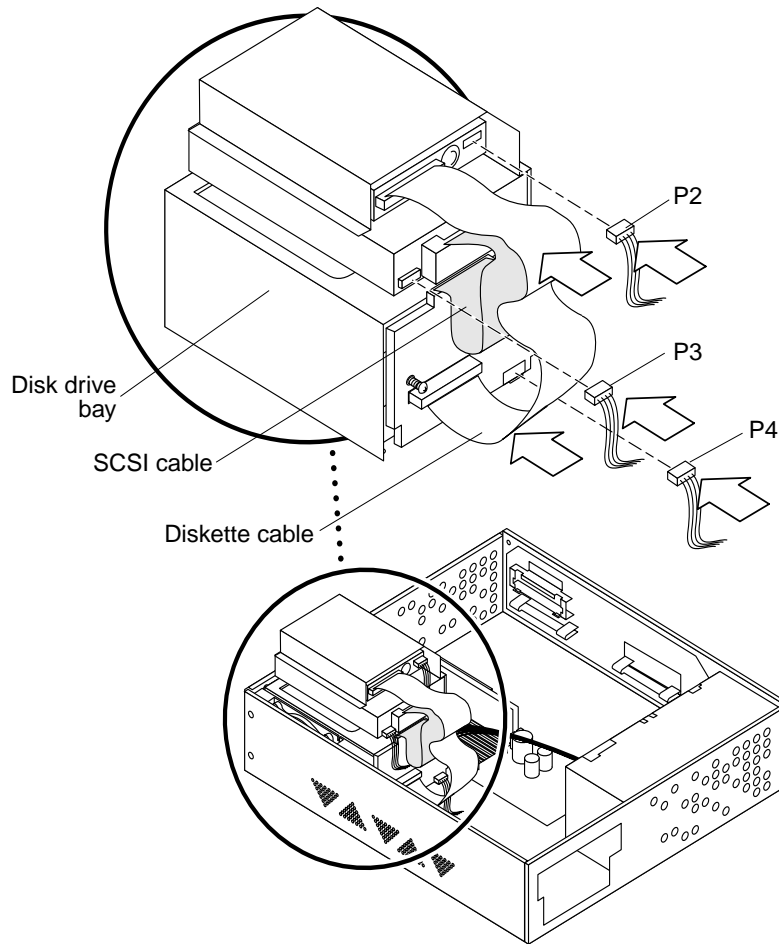

FIGURE 8-20 Replacing the Peripheral Power Cable Connection
1. **Connect the peripheral power cable to each peripheral (TABLE 8-1 and FIGURE 8-20).**